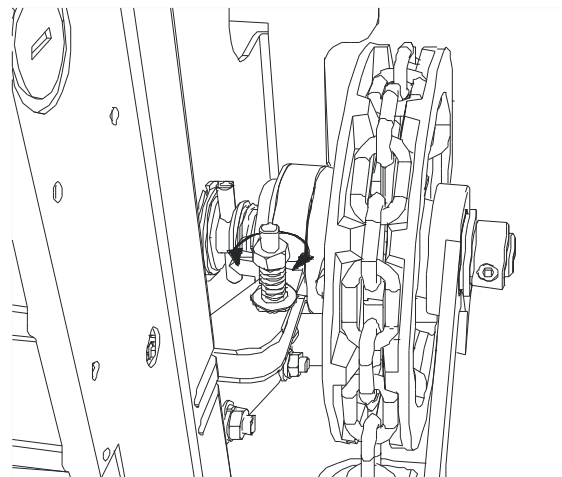

Figure 23 Chain Adjusting Nut
5. Adjustment of the door is required if no door movement occurs after two feet of pulled chain. To adjust, turn the adjusting nut clockwise (See **Figure 23**) by $\frac{1}{4}$ turn until the hoist engages after pulling one foot of chain.